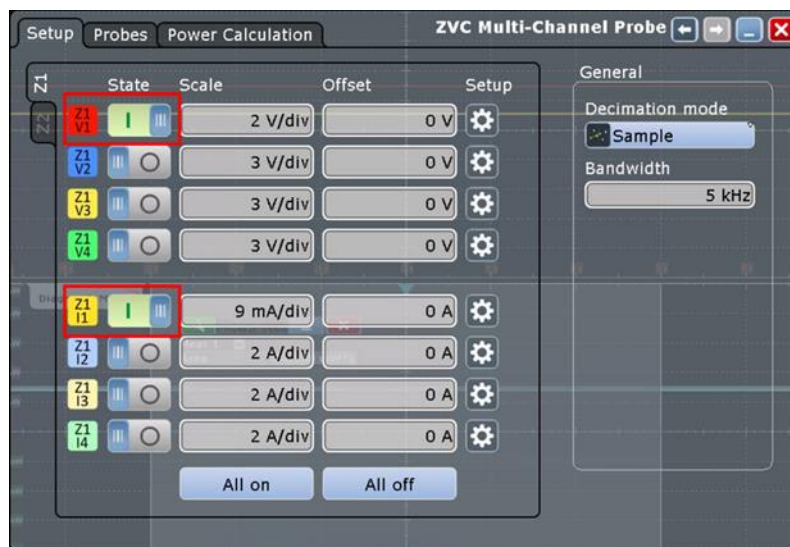

Figure 4-3: ZVC measurement configuration on the RTO
4. Configure as shown in Figure 4-3